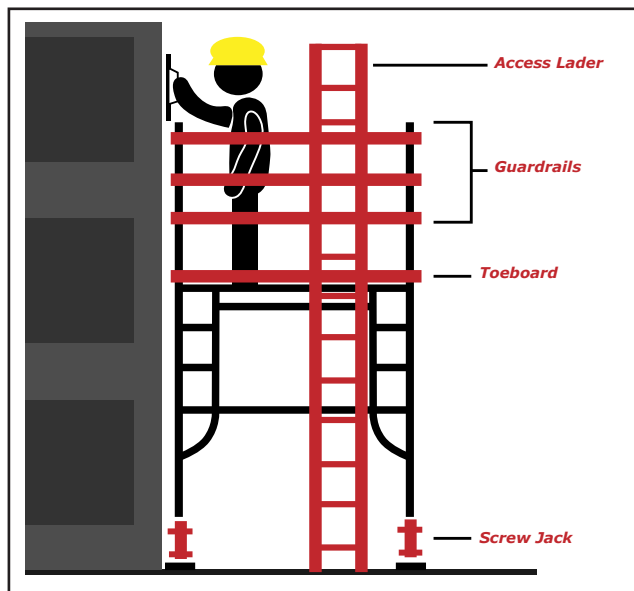

Figure A3-TS-03
55. What is the ratio of height to least lateral dimension required for a scaffold not to be tied to a structure? Figure A3-TS-03